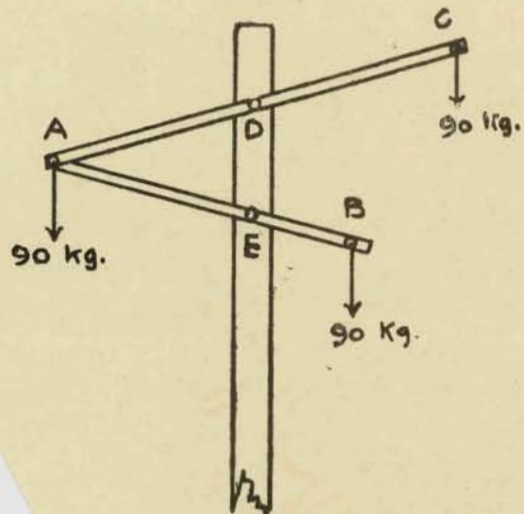

Fig. 5
5. The suspension of a three-phase electric current transmission is shown in Fig. 5, to scale. The load at each of the points A, B and C is 90 kilograms, as shown. Find the load on the pin D in magnitude and direction and also on the pin E due to the load at A only. Assume the cross bars pin jointed at A.